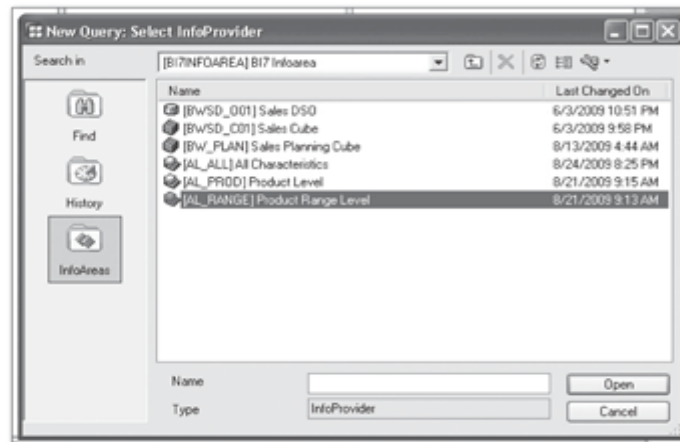

Figure 12.72 Create Query on Aggregation Level
1. Open the BEx query designer, and create a new query. When you navigate through the InfoAreas, you'll notice that the aggregation levels that are created using the Planning Modeler are also available as InfoProviders in the Query Designer. Select the level AL_RANGE (Product Range Level) to create the query (Figure 12.72).